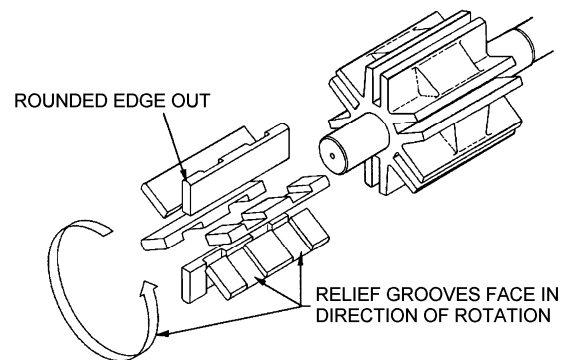
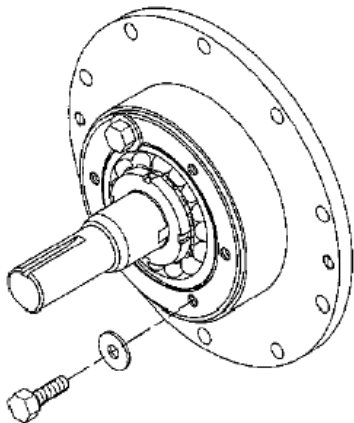

Figure 3 – Vane Installation
Figure 8 Clamping the Bearing
3. Install a new vane, ensuring the rounded edge is UP, and the relief grooves in the vanes facing in the direction of pump rotation (see Figure 3).
- On pumps equipped with a lip seal, install two 3/8" (10 mm) washers and two bearing cover capscrews (28) to clamp the bearing and compress the lip seal housing inner O-ring for proper bearing locknut adjustment (see Figure 8). The washers and capscrews will be removed after the locknuts are adjusted.
- Remove the vanes (14) and push rods (77) from the rotor and shaft assembly. Inspect for wear and damage, and replace as follows:
- Partially install the non-driven end of the rotor and shaft (13) into the open side of the pump cylinder.
- Leave part of the rotor outside of the cylinder so that the bottom vanes can be installed and held in place as the push rods are installed in the push rod holes of the rotor. Insert the new vanes into the rotor slots with the rounded edge outward, and the relief grooves positioned as shown in Figure 3.